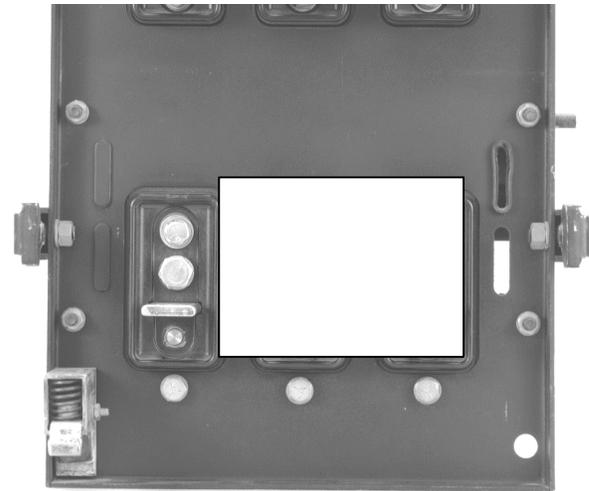

Figure 8. Installing the CT mounting bolts.
3. Insert the provided $\frac{1}{2}$ -13 x $1\frac{1}{2}$ " bolts with lock washers through the hole above each load terminal from the back of the breaker, as shown in Figure 8. Leave the bolts finger tight for now.
4. Insert the provided $\frac{3}{8}$ -16 x $1\frac{1}{4}$ " bolts with lock and flat washers through the holes above the $\frac{1}{2}$ -13 bolts installed in step 3, as shown in Figure 8. Leave the bolts finger tight for now.